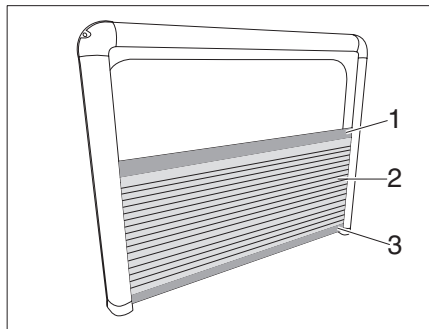

Fig. 39 Blind, pleated
- Pull up the blackout blind (Fig. 39,2) on the top strip (Fig. 39,1) and pull down the bottom strip (Fig. 39,3).
- Push down the top strip (Fig. 39,1). The opened window is protected by the insect screen.
- Push up the bottom strip (Fig. 39,3). The opened window is not protected by the insect screen.